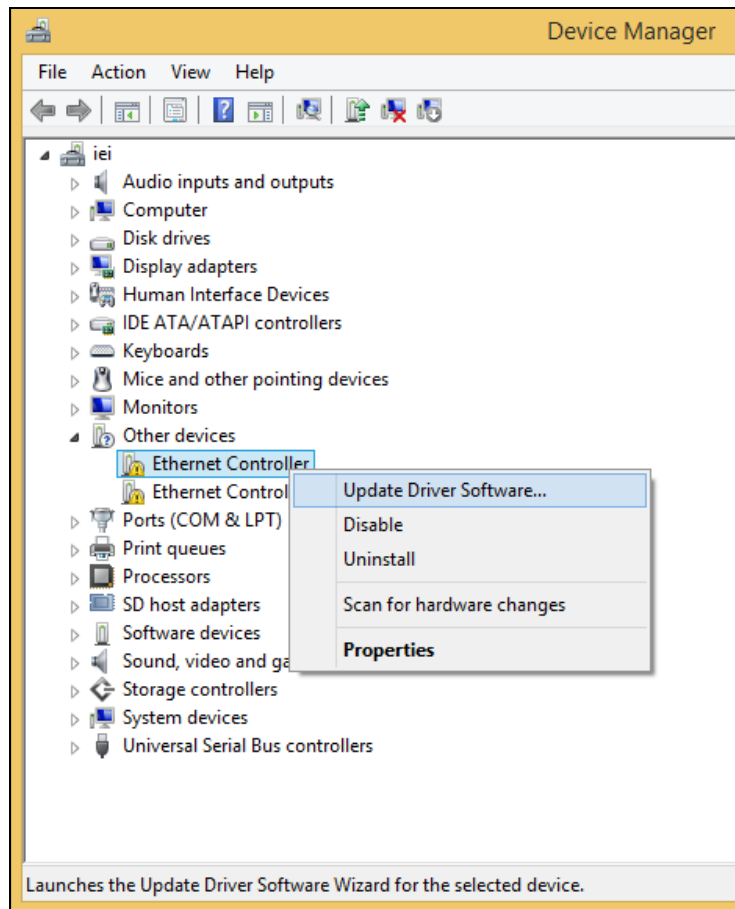

Figure 6-15: Device Manager List
- Step 4:** A list of system hardware devices appears (**Figure 6-15**).
- Step 6:** Select **Update Driver Software**. See **Figure 6-15**.
Step 12: Right-click the other Ethernet controller that has question marks next to it as shown in **Figure 6-15**. Repeat **Step 6** – **Step 11** to install the second Ethernet controller driver.